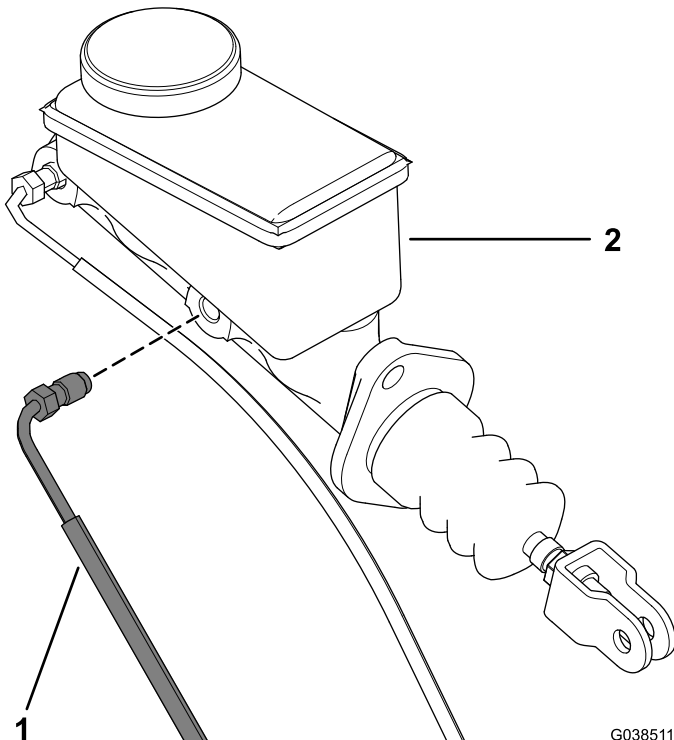

Figure 5
- Remove the front brake line from the master cylinder (Figure 5).
1. Install the front brake line to the master cylinder (Figure 5).